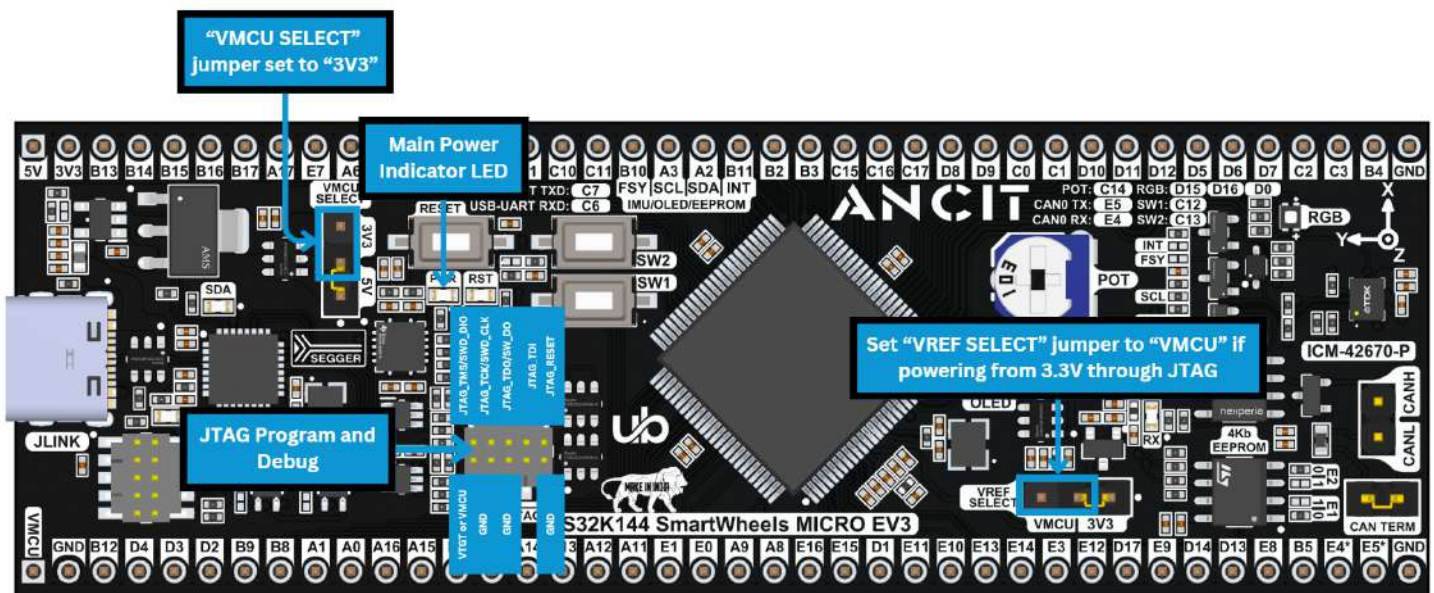

Fig 5 : Powering through JTAG Connector
- The “PWR” LED is mentioned in Fig 5. indicates that power is being received by the SmartWheels EV3.